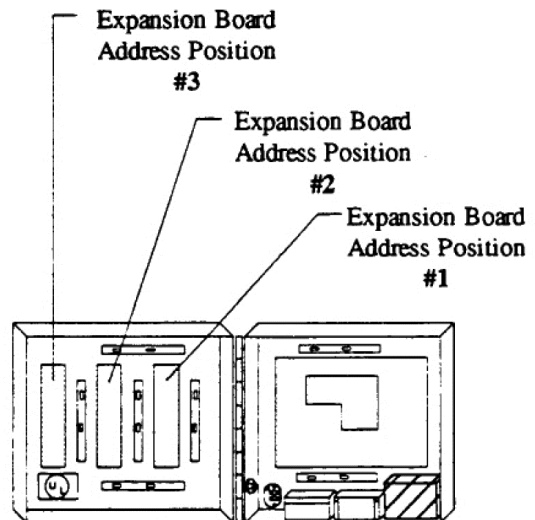

Figure 44 - Expansion Board Address Positions
- 2) Determine the location of the DI/DO Alarm board in the order, *from right to left*, that the Expansion I/O boards are mounted (see Figure 44).